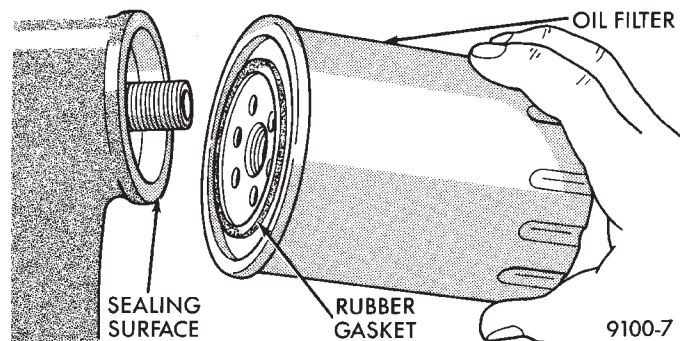

Fig. 12 Oil Filter Sealing Surface—Typical
- (4) When filter separates from adapter nipple, tip gasket end upward to minimize oil spill. Remove filter from vehicle.
- (5) With a wiping cloth, clean the gasket sealing surface (Fig. 12) of oil and grime.
- (1) Lightly lubricate oil filter gasket with engine oil.
- (2) Thread filter onto adapter nipple. When gasket makes contact with sealing surface, (Fig. 12) hand tighten filter one full turn, do not over tighten.
- (3) Add oil, verify crankcase oil level and start engine. Inspect for oil leaks.